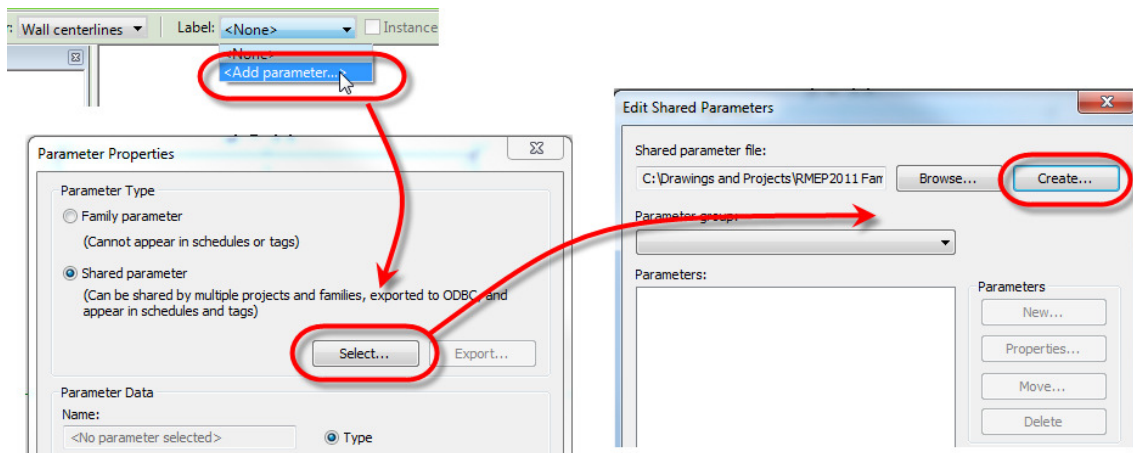

Figure 14. Establishing the Shared Parameter File.
8. Select the 2'-0" Dimension String, then select the drop down list next to *Label* from the *Options Bar* and click **Add parameter** (see Figure 14).
9. In the Parameter Properties dialog click **Shared parameter**, then click **Select** (see figure 14). In the alert dialog box that appears next, click **Yes** to select a shared parameter file.
10. In the Edit Shared Parameters dialog box, click **Create** (see Figure 14).